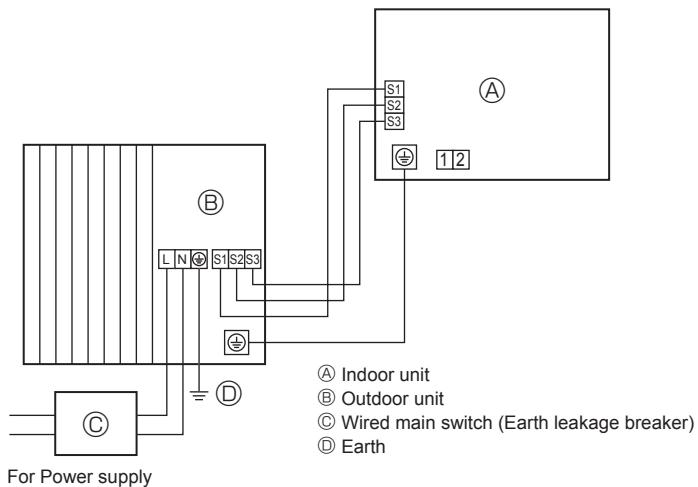
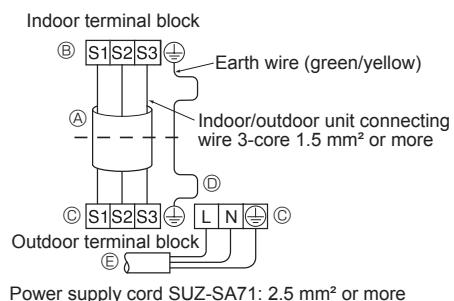
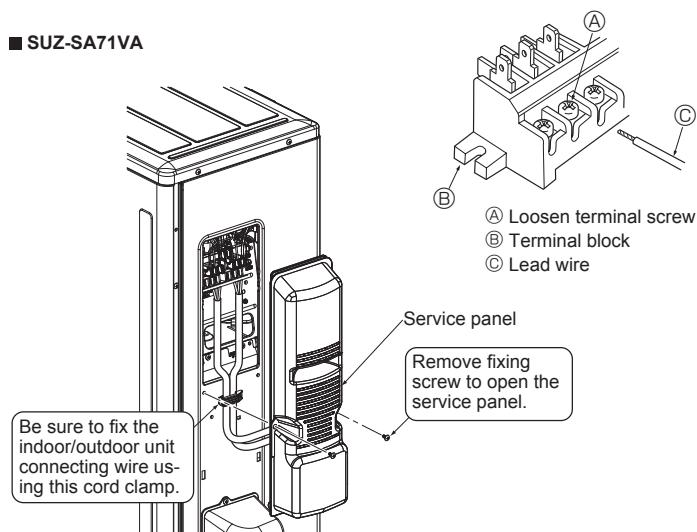

Fig. 5-1
Fig. 5-2
Fig. 5-3
### 5.1. Outdoor unit (Fig. 5-1, Fig. 5-2, Fig. 5-3, Fig. 5-4)
- ① Remove the service panel.
- ② Wire the cables referring to the Fig. 5-1, Fig. 5-2, Fig. 5-3 and the Fig. 5-4.
- Perform wiring as shown in the diagram to the lower left. (Procure the cable locally) (Fig. 5-2)
- (A) Connecting cable
- (B) Indoor terminal block
- (C) Outdoor terminal block
- (D) Always install an earth wire longer than other cables.
- (E) Power supply cord
- Use care not to make miswiring. (Fig. 5-3)